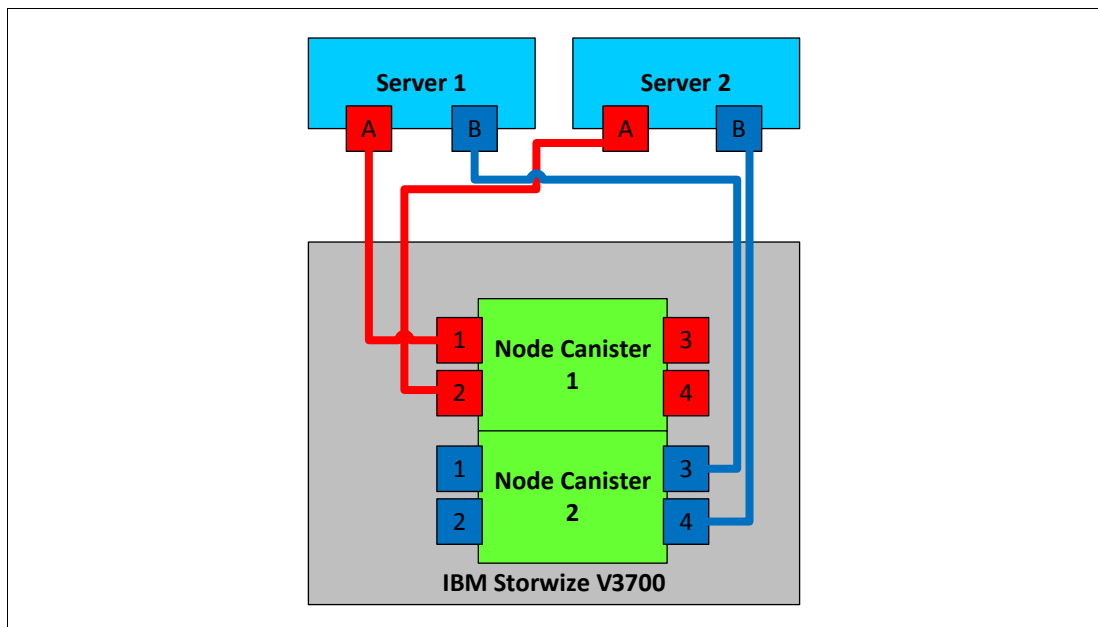

Figure 2-3 Direct attach server configuration
IBM Storwize V3700 can be used with direct attach Fibre Channel (FC) server configuration. The recommended configuration for direct attachment is to have at least one FC cable from the server connected to each node of the IBM Storwize V3700 to provide redundancy in the event one of the nodes goes offline (Figure 2-3).